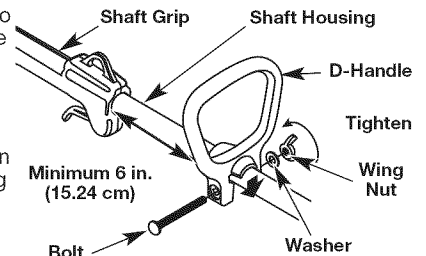

Fig. 2
1. Push the D-handle down onto the shaft housing (Fig. 2). The hex bolt hole in the handle should be on the left side.